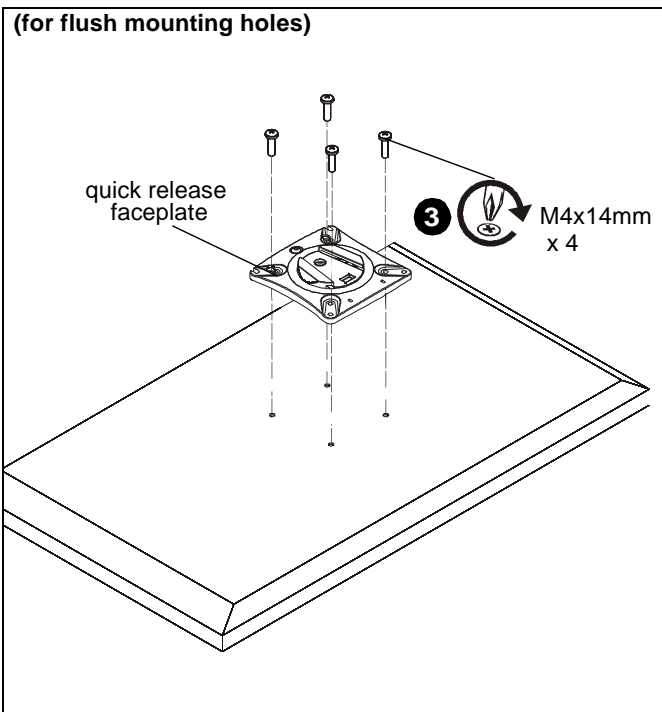

Figure 4
- Using Phillips screwdriver, carefully install four M4x14mm screws through corresponding holes on faceplate and into the mounting holes on the display. (See Figure 4)